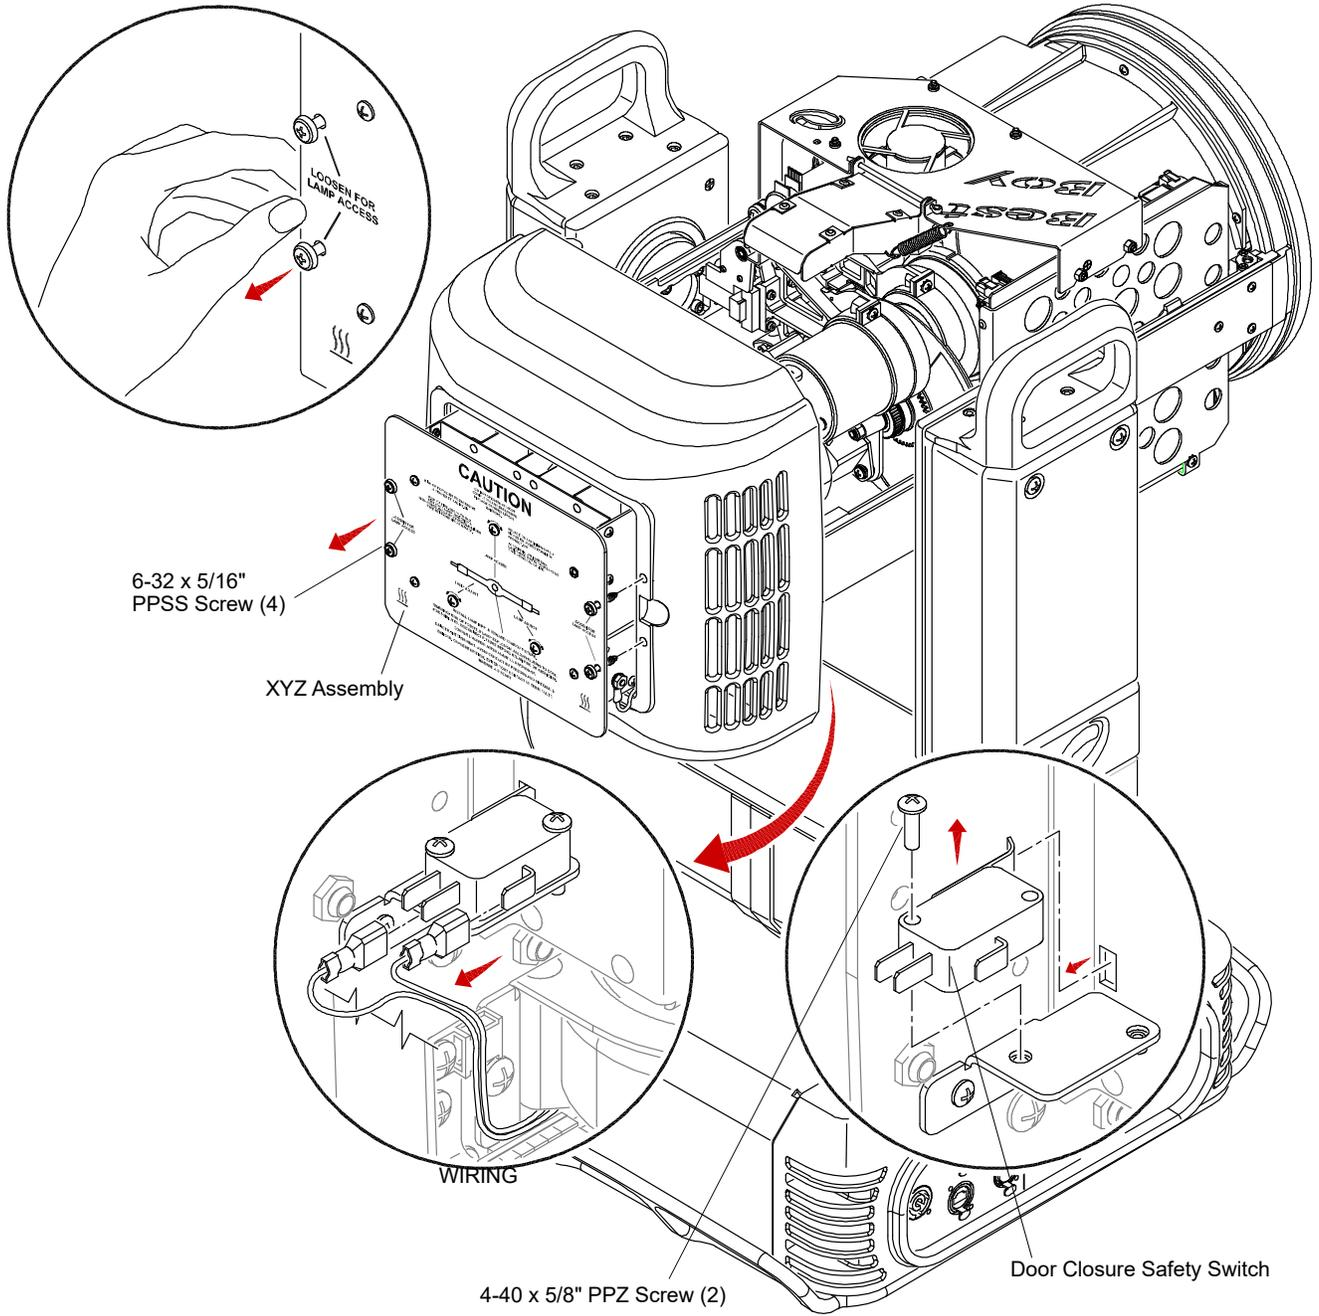

Figure 3-44: Replacing Door Closure Safety Switch
- Step 3. At Aft Bulkhead, remove four 6-32 x 5/16" PPSS screws and pull XYZ Assembly outward about 1/2-inch as shown in **Figure 3-44**. (This will clear the pin from the Safety Switch toggle so it can be removed.)